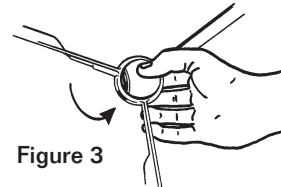

Figure 3
- b. Roll bearing ball out from bottom of support (Figure 3).